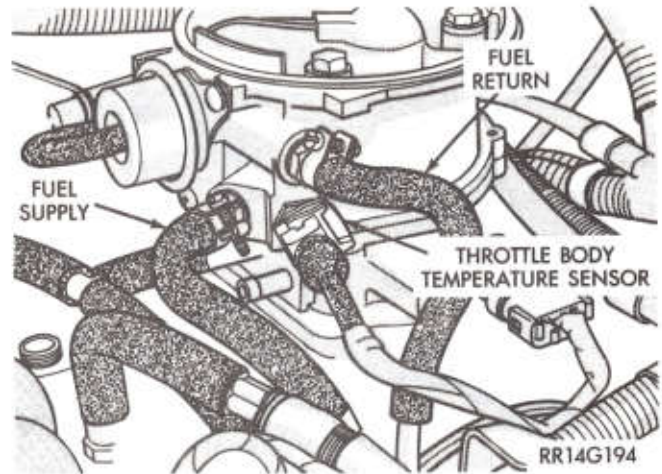

Fig. 13—Throttle Body Temperature Sensor Electrical Connection
(20) Verify that the 2-way connector is attached to the throttle body temperature sensor (Fig. 13).